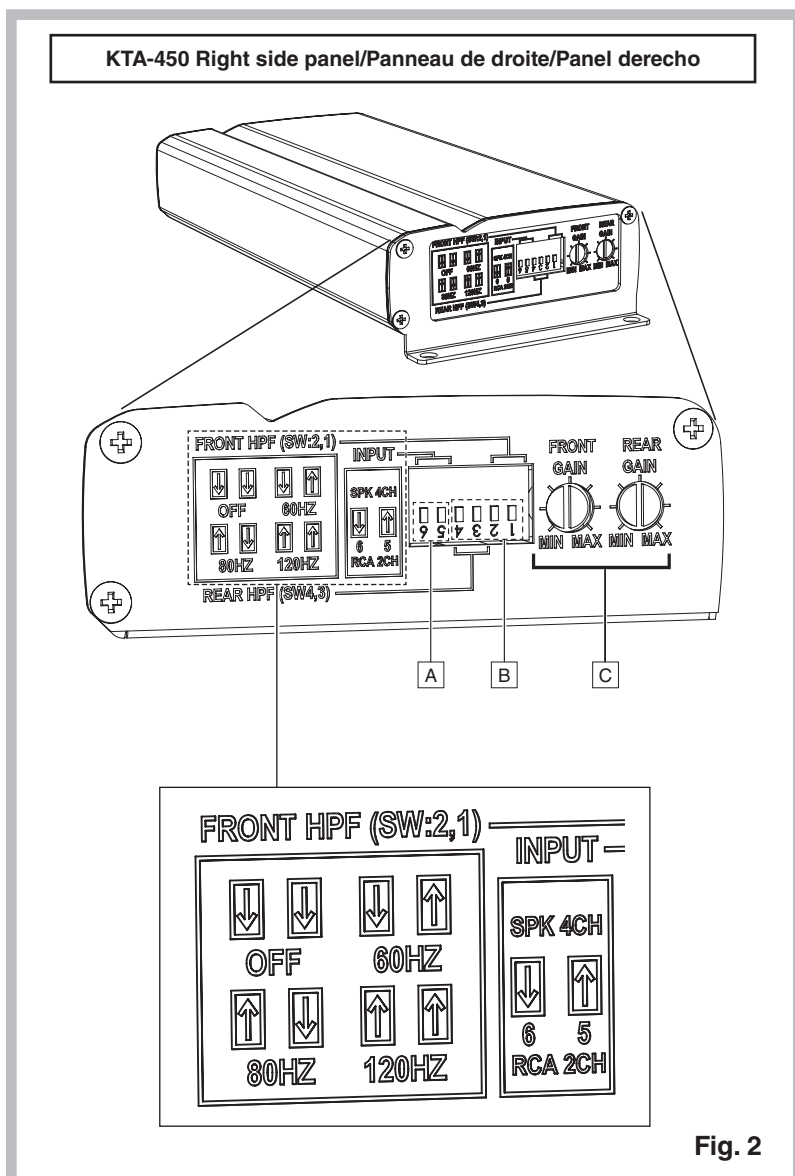

Fig. 2
CONFIGURACIÓN DE LOS INTERRUPTORES (Fig. 2)
SWITCH SETTINGS (Fig. 2)
⑧ Input Signal Type Switch
- Refer to figure 2
⑨ Input Configuration Switch